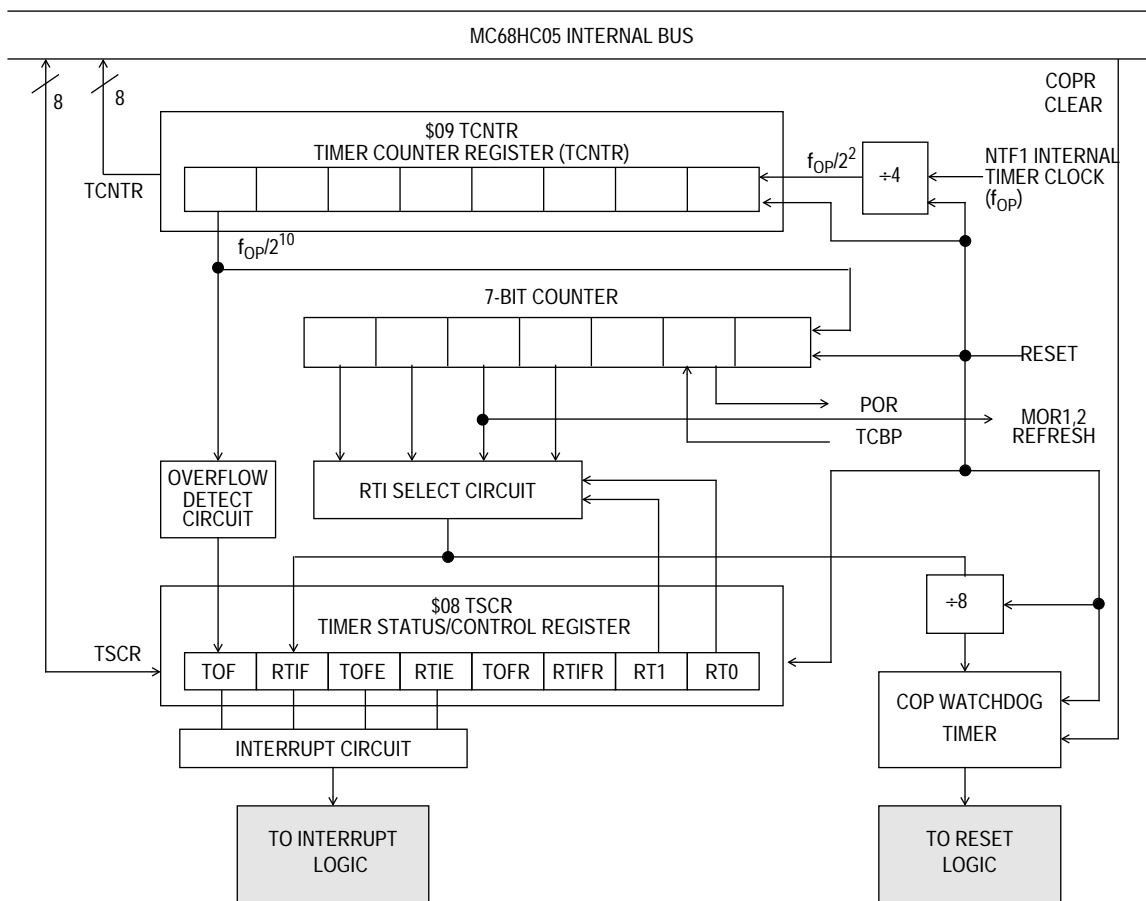

Figure 8-1. Timer Block Diagram
As shown in **Figure 8-1**, the timer is driven by the timer clock, NTF1, divided by four (4). NTF1 has the same phase and frequency as the processor bus clock, PH2, but is not stopped by the wait or halt modes. This signal drives an 8-bit ripple counter. The value of this 8-bit ripple counter can be read by the CPU at any time by accessing the timer counter register (TCNTR) at address \$09. A timer overflow function is implemented on the last stage of this counter, giving a possible interrupt at the rate of f_{OP}/1024. Two additional stages produce the POR function at f_{OP}/4064 or f_{OP}/16, followed by two more stages, with the resulting clock (f_{OP}/16,384) driving the real time interrupt (RTI) circuit.